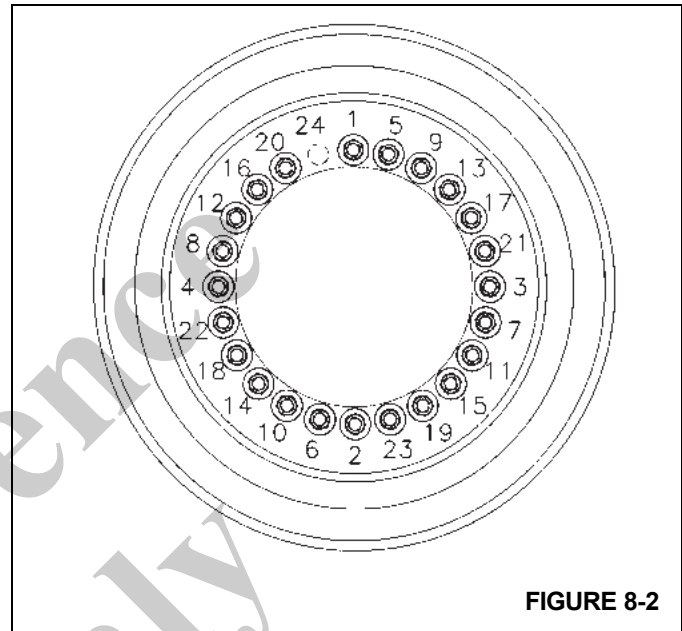

FIGURE 8-2
2. Position the wheel assembly on the mounting studs. Install the lug nuts and tighten them to 68 Nm (50 lb-ft) in the sequence shown in Figure 8-2.
4. Continue to torque the lug nuts 461 Nm to 488 Nm (340 lb-ft to 360 lb-ft) in the sequence shown in Figure 8-2.